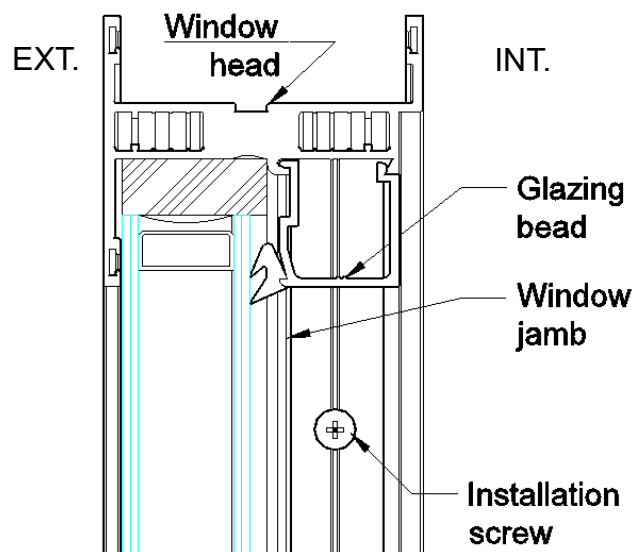

Figure 6: Side View of Jamb on Top
2.5 Fasten the jamb on top through the installation hole on both sides (refer to figure 6). Notice: do not over tighten the fasteners to distort the frame, and do not drill on the window sill/head to avoid water infiltration.